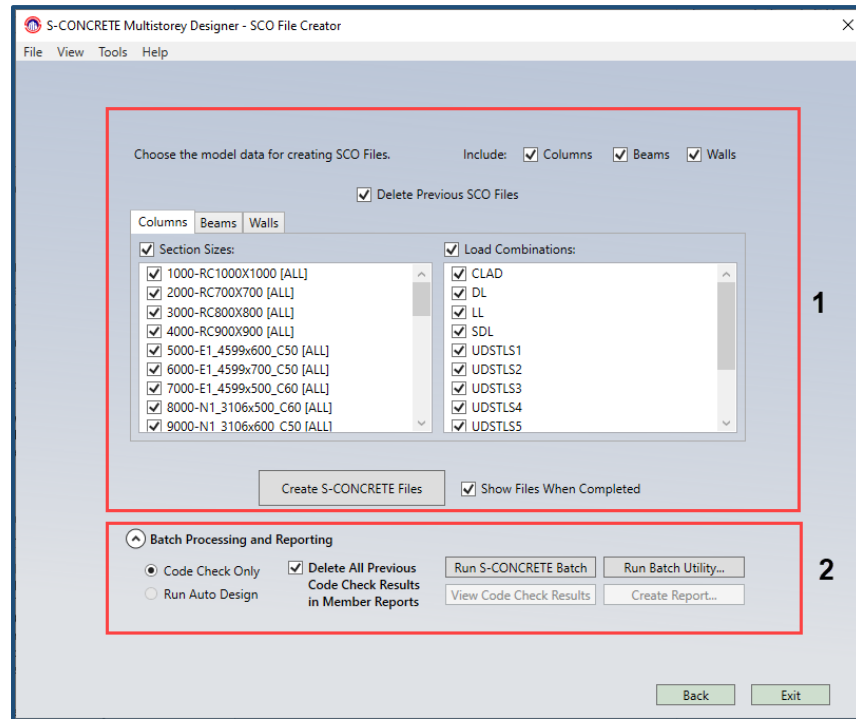

Figure 22. S CONCRETE File Creation and Batch-Run Feature
**Area 1** of Figure 22, the SCO File Creator window displays the features that allow users to create S-CONCRETE (SCO) files for all or specific Columns, Beams and Walls with Loads as chosen by the user.
**Area 2** of Figure 22, the SCO File Creator window provides functions to run the S-CONCRETE Batch Utility for the SCO files created in Area 1. The Batch Utility runs in the background and displays a dialog box when finished. The Batch Utility is able to run different Member Types (Columns, Beams and Walls) in separate CPU Cores if the computer has a multi-core processor. This speeds up the overall run-time considerably for large models which have a large number of SCO files of each member type.
After the S-CONCRETE Batch Utility has been run, a selected portion of the results is read back into the application to allow users to review the results without opening S-CONCRETE for the individual files. There are three (3) main Tools to review the results, a Table view, PDF Report view, and within the member Design Data Form Tool that is shown in Figure 21. The Table and PDF Reports are available from buttons shown in the application dialog in Figure 22. The Design Data Form will display a limited detail of the Batch results. You can return to the main window shown in Figure 15 by using the View Menu and go to the Design Standards menu item.